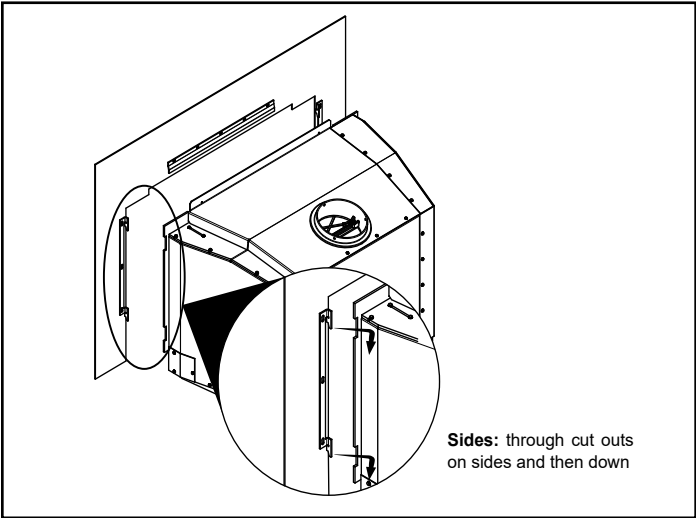

Figure 20.1
1. Lift surround to front of appliance (**Figure 20.1**).